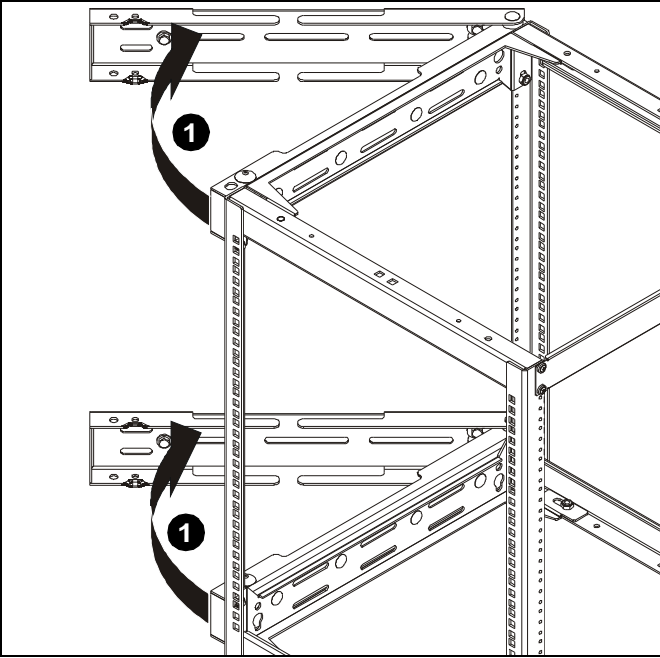

Figure 11
1. Gently swing rack into locked position against wall. (See Figure 11)